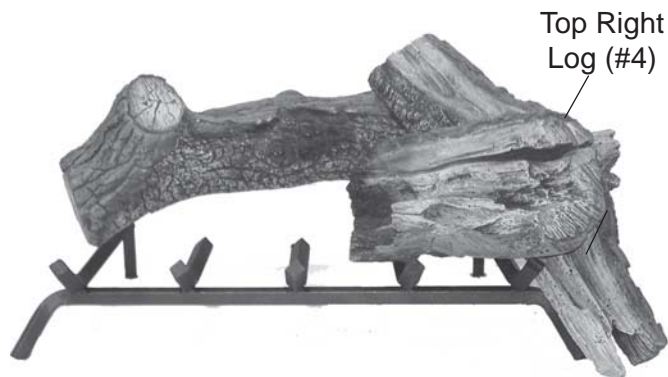

Figure 132 - Placing Top Right Log (#4)
4. Place Top Right Log #4 on Bottom Right Log #2 resting on grate. *See Figure 132.*